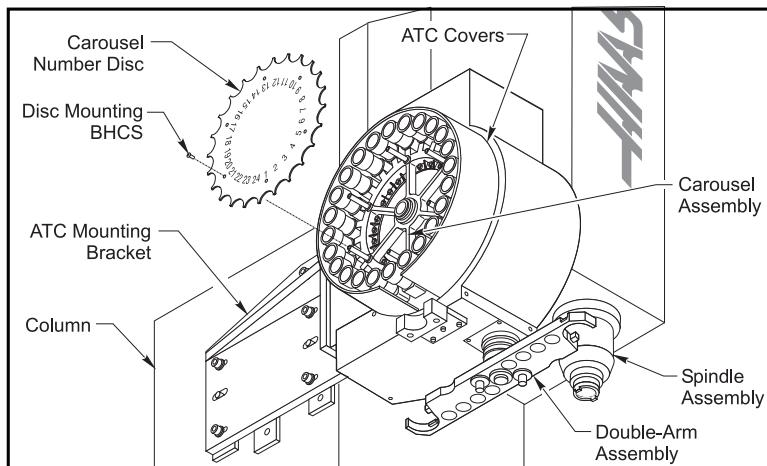

Figure 3-62 ATC Assembly, Carousel Removal
2. Unscrew the BHCS from the carousel number disc and remove. Refer to Figure 3-62.